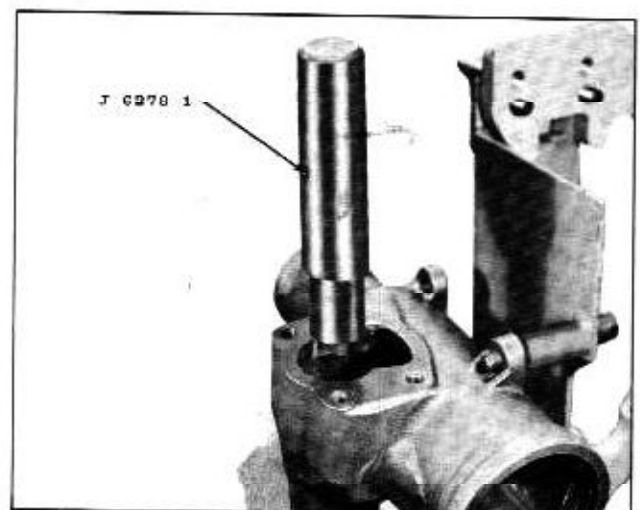

Fig. 4-23 Needle Bearing and Seal Removal
2. If pitman shaft needle bearing replacement is necessary, remove the seal retaining ring and outer seal washer, then drive needle bearing, seals and inner washer out with Tool J-6278-1. (Fig. 4-23)